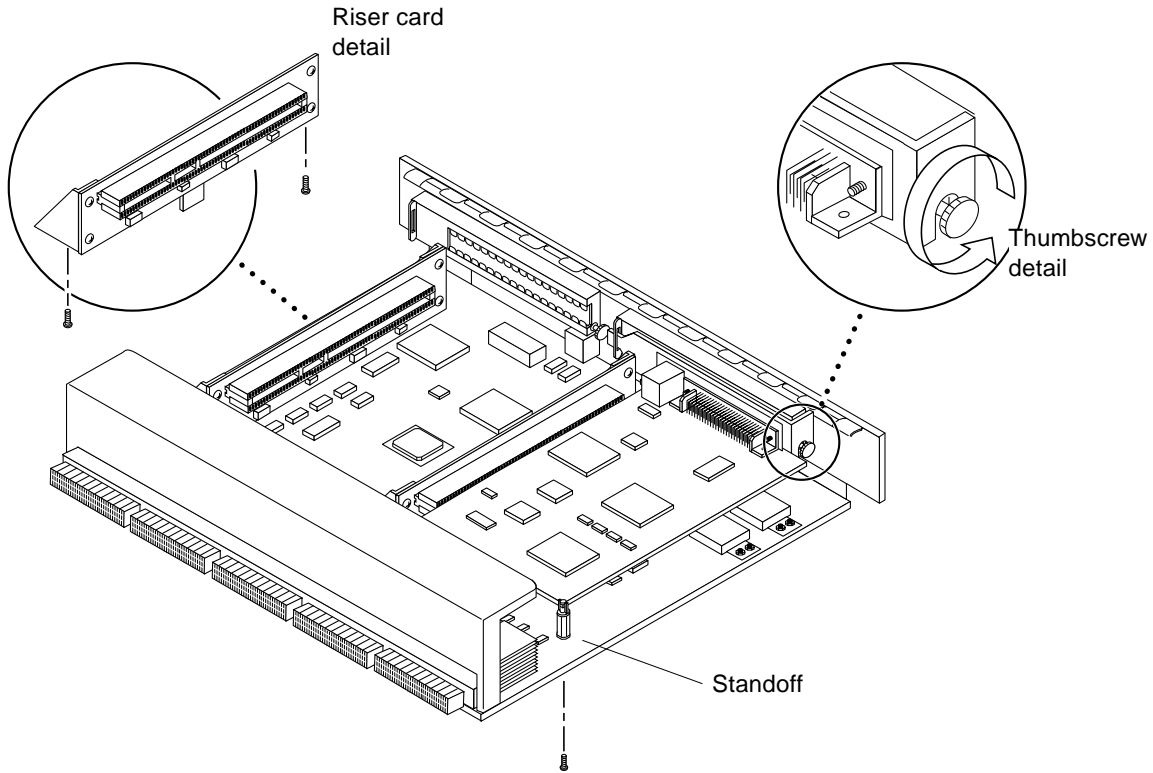

FIGURE 4-23 PCI and Riser Card Removal
2. On the noncomponent side of the I/O+ board, loosen the locking standoff for the corresponding PCI card that is to be removed (FIGURE 4-23).
3. Loosen and then remove the thumbscrew on the component side of the I/O+ board next to the external PCI card connector (FIGURE 4-23).
3. Remove two screws securing the existing riser card to the PCI+ I/O board (FIGURE 4-23 on page 4-30) and remove the riser card.